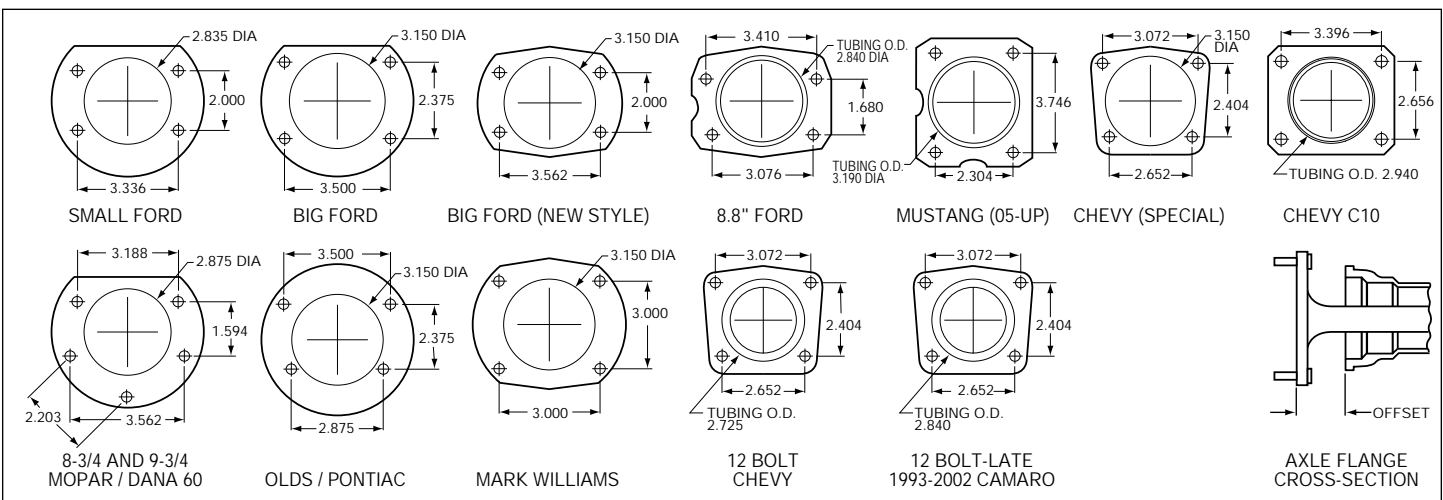

Figure 4. Rear Housing Flange Chart with Axle Flange Cross-Section Diagram
- Make sure this is the correct kit to fit the axle housing flange, not necessarily the rear end make. Many times after market manufacturers put a different make of axle housing flange on the stock rear end housing (see Figure 4, next page). Example; Big Ford rear ends with Olds-Pontiac flanges, therefore, an Olds-Pontiac rear disc brake kit would be the correct kit to order.
- Dimension from wheel side of axle flange to wheel side of axle housing flange (see Figure 4, lower right hand corner). This dimension is critical to ensure proper alignment of the rotor to the caliper, and should match offset given in the kit description.